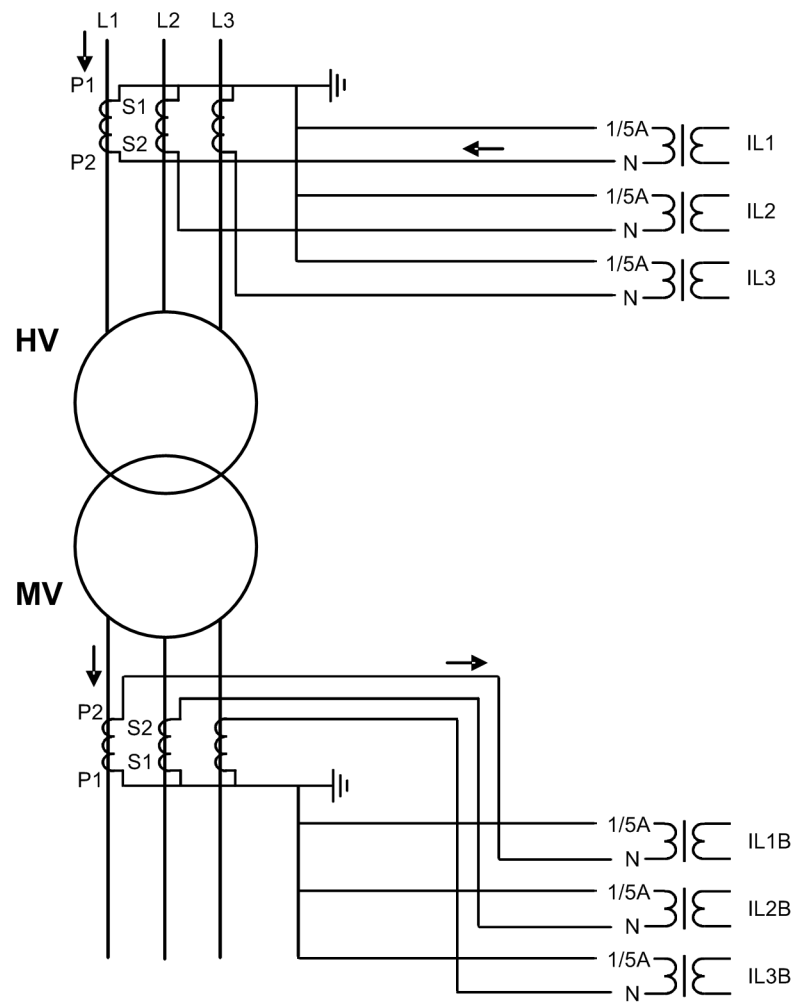
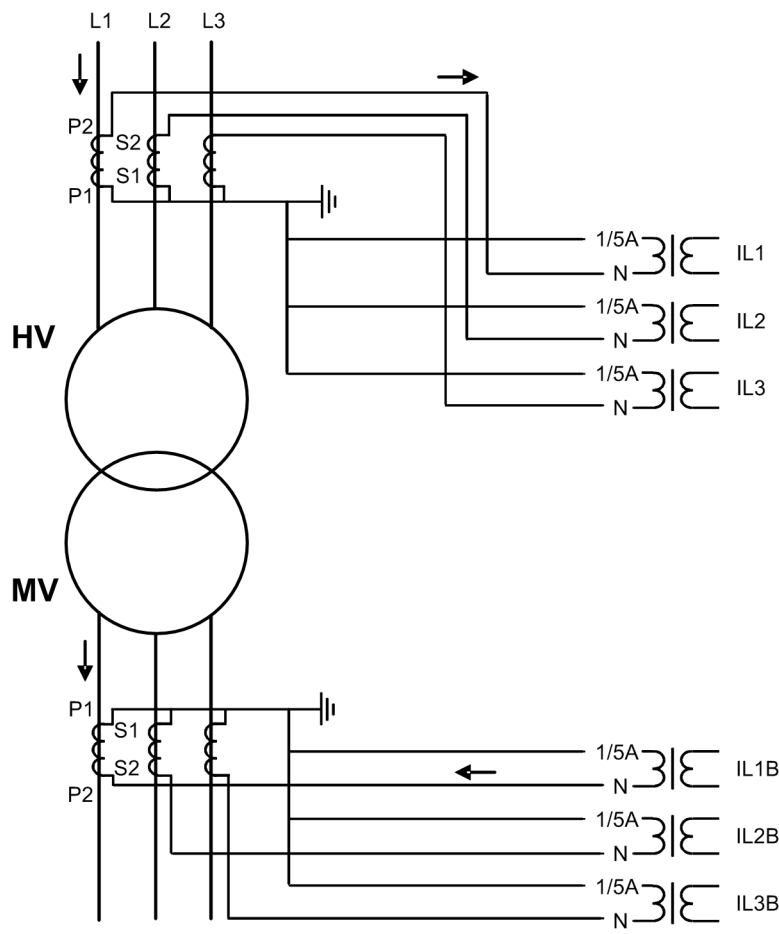

Figure 270: Connection example of current transformers of Type 1
Figure 271: Alternative connection example of current transformers of Type 1
- If the positive directions of the winding 1 and winding 2 protection relay currents are opposite, the *CT connection type* setting parameter is "Type 1". The connection examples of "Type 1" are as shown in Figure 270 and Figure 271.